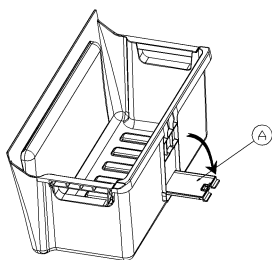

FIGURE -1-
1-Pull out the bottom drawer of the freezer compartment and open the **water drain cover (A)** which is at the back of the drawer (figure-1).